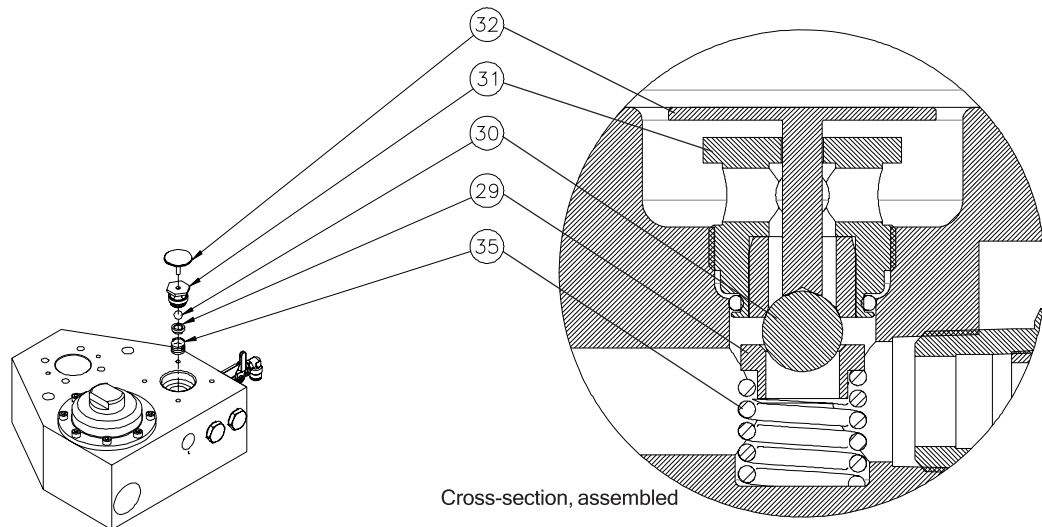

Figure 4-3. Regulator Seat Components
2. Reassemble the Regulator Seat components, referring to Figure 4-3.
- a. Tighten the Ball Seat (31) to 30 N\*m (264 in\*lbs).